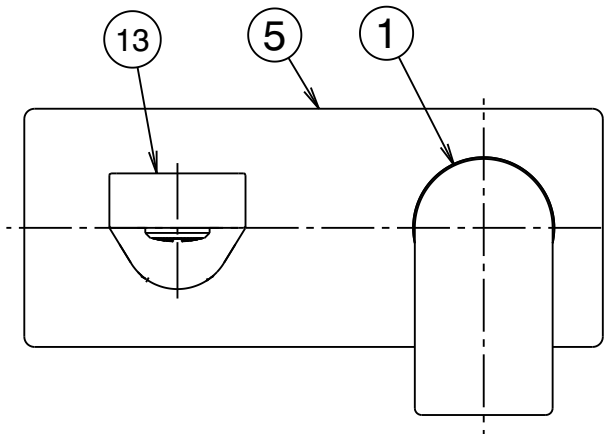

Fig. 3
- 3) *Outlet:* Screw the spigot (11) onto the thread of elbow (10) using a 10mm allen key (17+) until the cover plate (5) is held securely against the wall/tile face & horizontally aligned (Fig.3). **DO NOT OVERTIGHTEN.** Apply suitable lubricant to 'O'Rings (12). Fit wall outlet (13) onto the spigot (11), then carefully push it firmly against the cover plate while tightening grub screws (15) using the 2.5mm allen key (16) provided. Take care that the aerator insert (14) is pointing vertically downwards before tightening screws (15).
- 4) Fit handle (1) taking care that it is pushed fully onto cartridge stem, tighten screw (2) using the 2.5mm allen key (3) then fit plug (4).